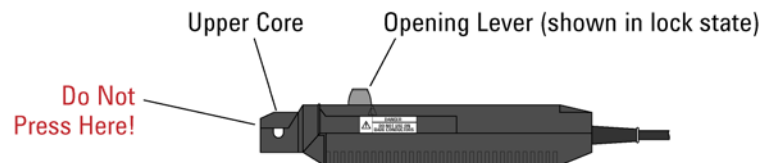

Figure 4 Use of Opening Lever
- 8 Slide the probe's Opening Lever into the **LOCKED** position as shown in **Figure 4**. Confirm that the sensor head is properly closed.